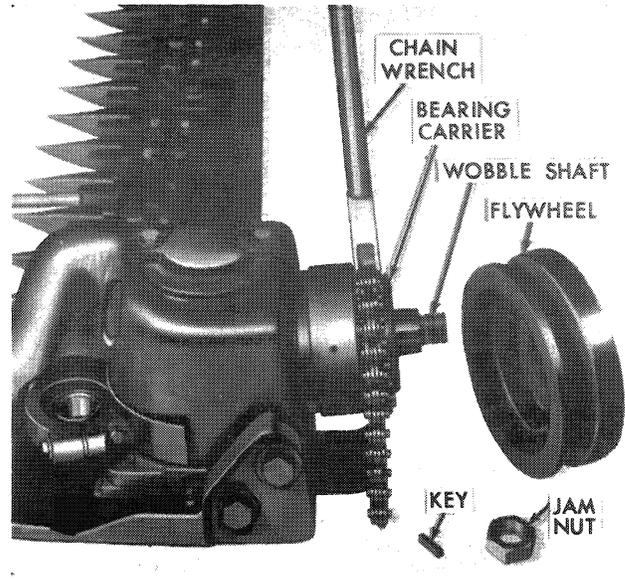

Figure 6
2. Unscrew the 1" jam nut and remove the flywheel and 1/4" square key, Figure 6. It may be necessary to strike and rotate the flywheel with a soft hammer to loosen it.
3. Remove the bearing carrier with a chain wrench (or 24" pipe wrench), Figure 6. While turning the bearing carrier, lightly tap the end of the wobble shaft (nut installed flush with the end of the shaft) to relieve pressure on the bearing.